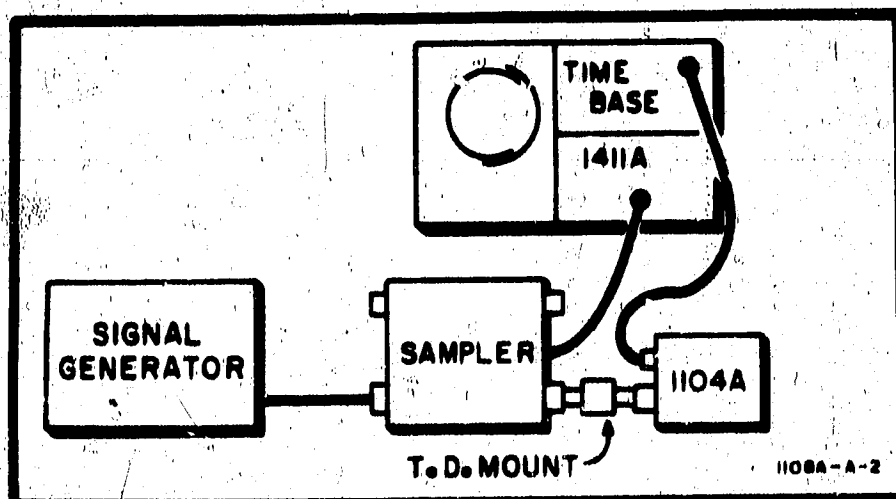

Figure 5. Sensitivity Check
15. This checks the sensitivity of the Trigger Countdown. Connect the equipment as shown in Figure 5.